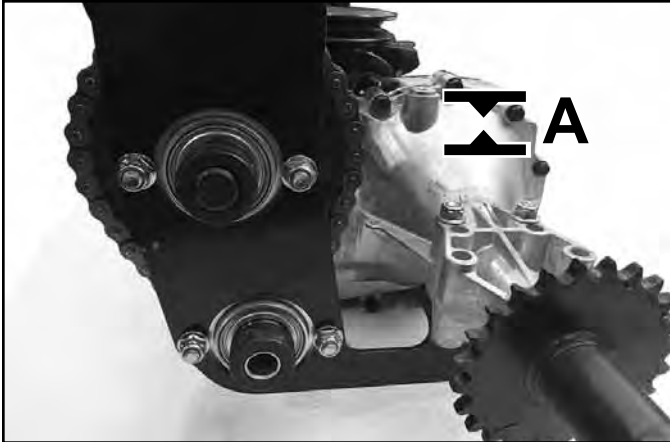

Fig. 108
7. Fill the transmission at the oil-fill port until the oil level is 1/2 - 1 1/4 inches (13 - 32mm) below the top of the fill port (A) (Fig. 108).